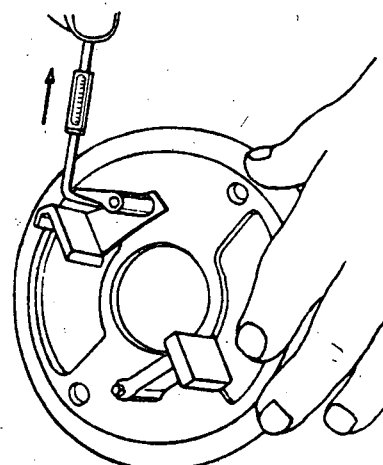

Fig. 4
- g) Check the tension in the brush springs, according to specifications (fig. 4).